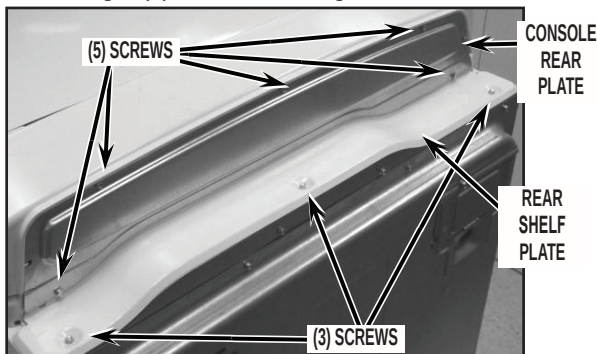

FIGURE 1
2. Remove console rear plate and rear shelf plate by removing a total of eight (8) screws. See Figure 1.